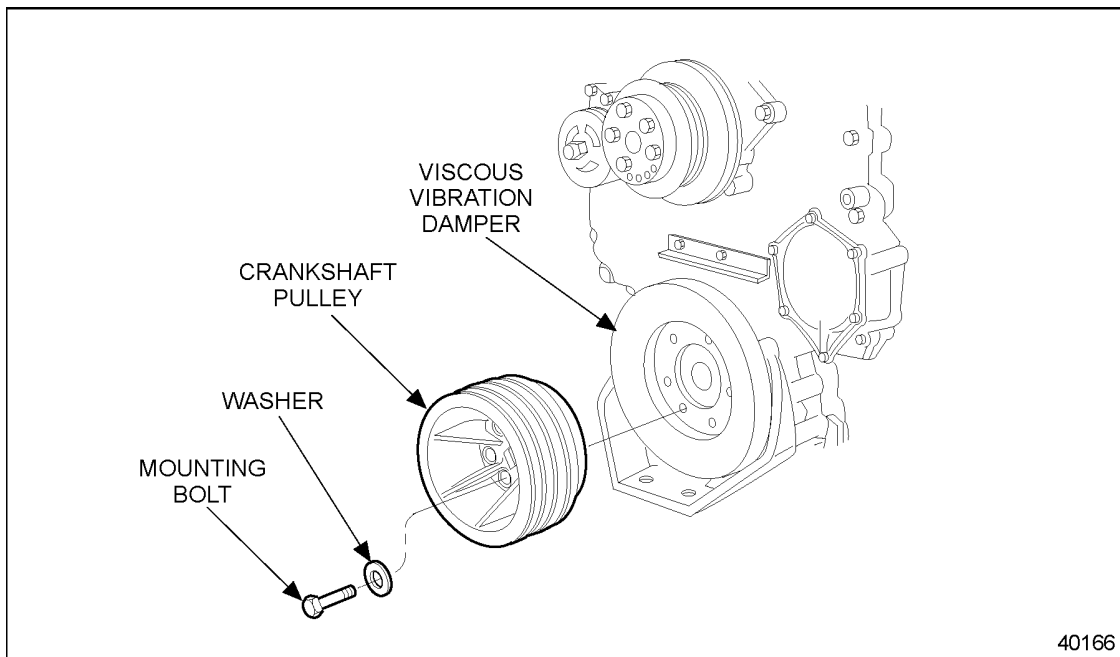

Figure 1-206 Crankshaft Pulley Mounted Directly to the Crankshaft
7. Install four new special crankshaft pulley-to-crankshaft attaching bolts with hardened washers installed, through the pulley and damper and into the crankshaft. Finger tighten the bolts. See Figure 1-206.